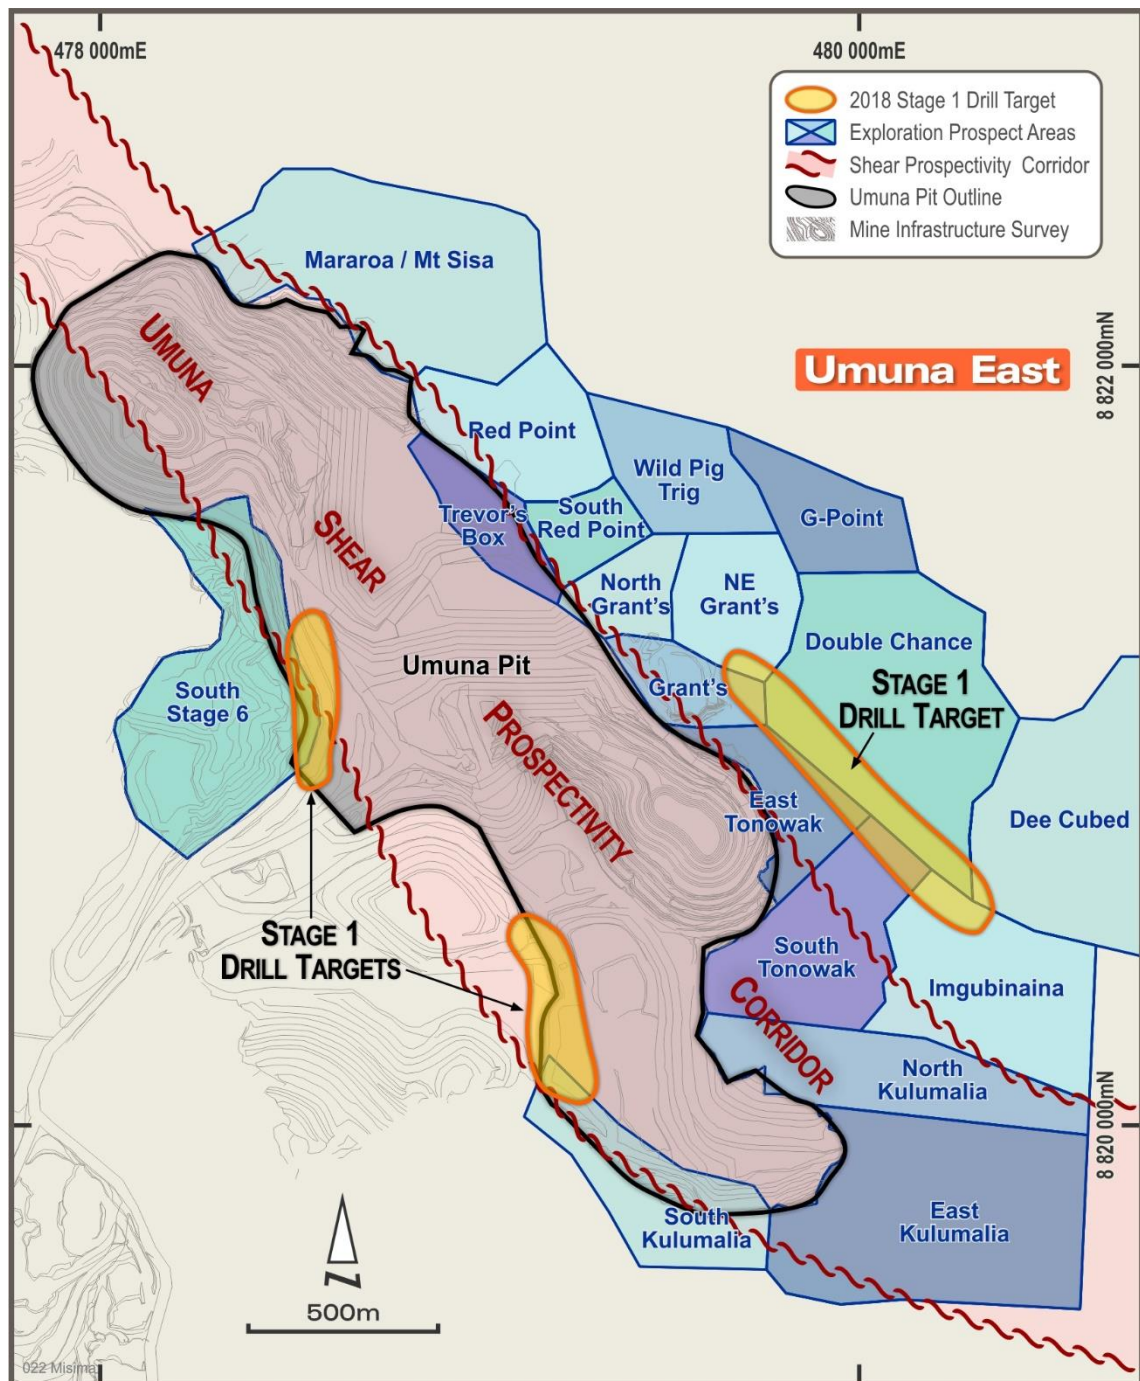

Figure 1: Background of the historical Umuna Mine, Umuna shear corridor and Umuna East prospects
1. Initial drilling will focus on extensional targets outside the current 2.8Moz JORC Resource in the Umuna East Side (UES) area. (Figure 1 + 2). These targets are structurally-controlled mineralised splays originally identified in mapping, channel sampling and, in some instances, drilling by Placer Dome. The Tonowak area of the Umuna pit is an example of a high-grade UES structure, which prior to being mined by Placer hosted historic drilling intersections such as: